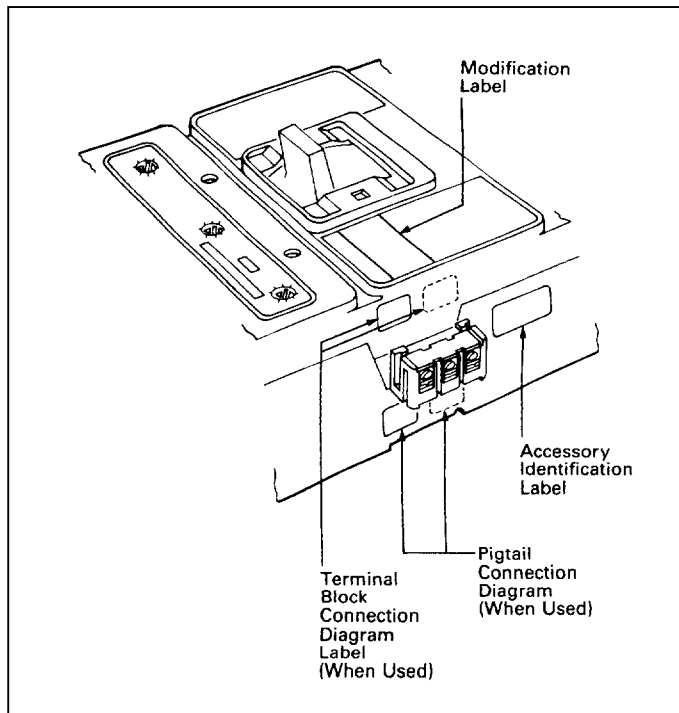

Fig. 2-6. Preferred Mounting Locations for Accessory Nameplate Labels
- 2-13. Place accessory labels (supplied with kit) on circuit breaker. (See Fig. 2-6.)